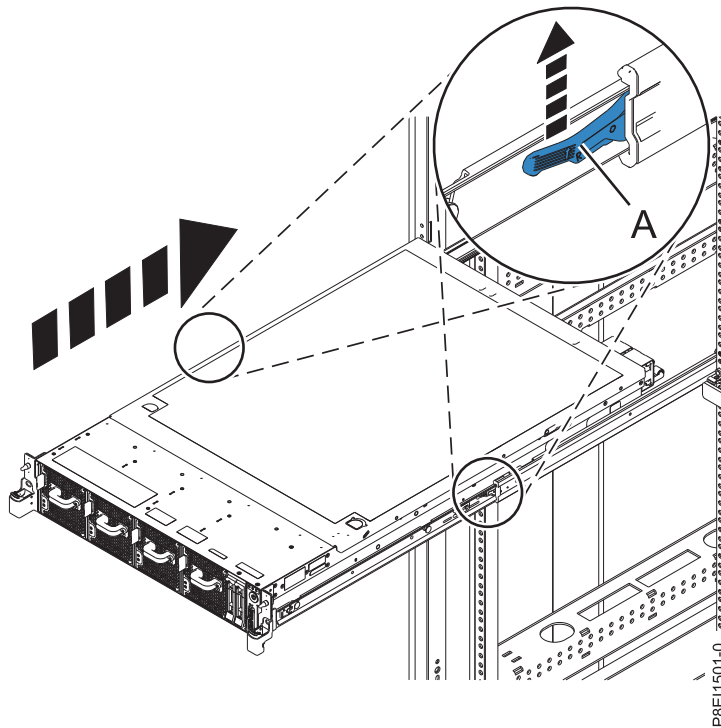

Figure 43. Placing the system into the operating position
2. Align the system unit on to the rails and push the system unit back into the rack until both release latches lock into position. See Figure 43.